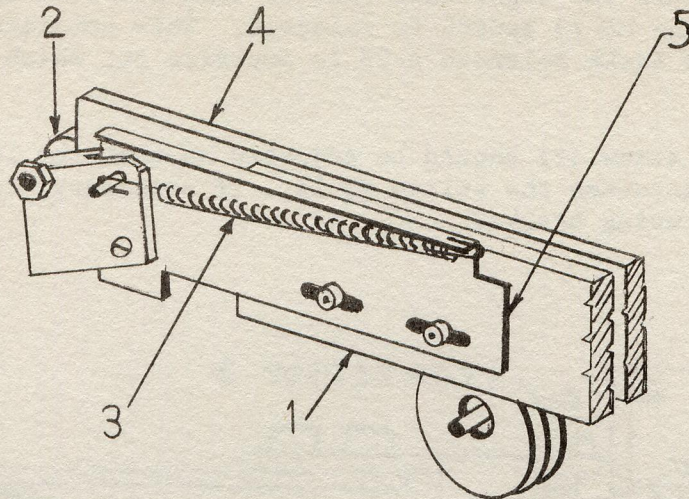

FIG.14
(T) Line Measuring Slide (Assembler Slide) Inhibitor (Fig. 14)